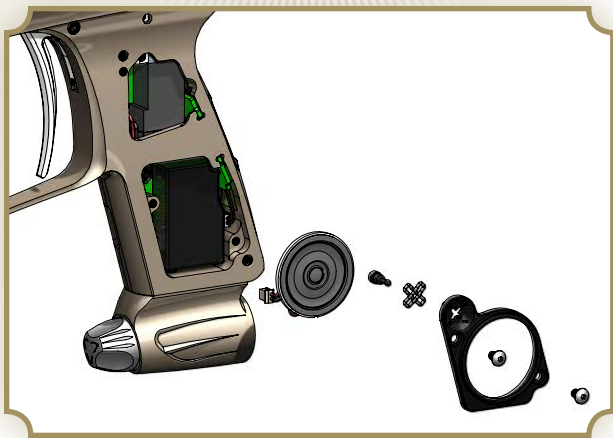
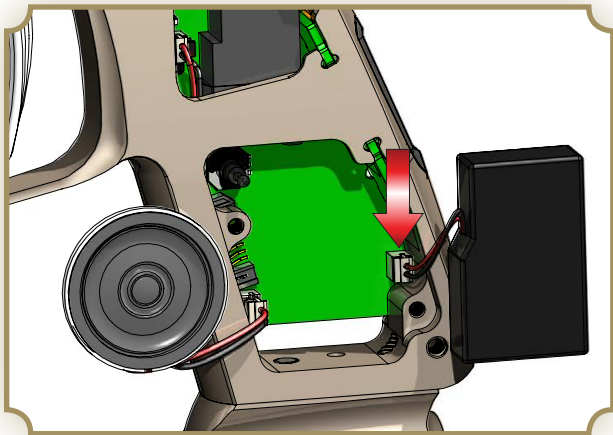

FIG. 1
FIG. 2
❧ FIG. 1 ❧
❧ FIG. 2 ❧
**YOUR LUXE® IS DESIGNED TO OPERATE ON HIGH-PRESSURE AIR (HPA)** which is stored in cylinders (tanks) at pressures of up to 3,000 [FIG. 1] or 4,500 psi [FIG. 2.] The storage cylinder, along with the regulator mounted in its neck forms an HPA system. There are two main types of HPA systems, those on which the regulator's output pressure is adjustable, and those for which their regulator is pre-set to deliver a fixed output pressure. HPA systems designed to screw into an ASA are usually pre-set to provide 400 psi (low pressure output) or 800 psi (high pressure output.)
When mounting the bottom-line adapter directly to the grip frame, it must first be disassembled by unscrewing and removing its control knob. Each of the short 10-32 socket head cap screws are inserted in the center slot in the top of the bottom-line adapter [FIG. 1.] then slid to the front or back. A 5/32-inch allen wrench is guided up through holes in the bottom of the adapter to tighten the screws. If needed, the control-knob's o-ring may be lightly lubricated with GR33SE™ before it is reinstalled.
The Air Integrated Rail offers an alternative configuration with a slightly lower and forward placement of the HPA system. A short socket head cap screw is used through the rail's rear hole to secure it to the grip frame [FIG 2.] A long socket head cap screw is slid into the bottom-line's rear mount point while a short socket head cap screw is used in the front, installing with the same procedure as direct-mounting.
While wearing ASTM compliant paintball goggles, in an area where all bystanders are protected, remove the barrel blocker and fire over a chronograph to measure the velocity. Using a 5/32-inch allen wrench on the adjuster in the bottom of the Luxe® Vertical Regulator, turn clockwise to increase velocity/pressure [FIG. 1.] and counterclockwise to decrease.
Turn off your HPA system either with its on/off valve, or the on/off valve of a connected bottom-line adapter. Lift the quick-strip latch upward to vent pressure from the Power Core [FIG 2.] As the Power Core is depressurized, it will make a sound similar to a soda can being opened. If you hear the sound of escaping gas for more than a second or two, your HPA system has not been turned off. Turn off your HPA system and repeat the degassing procedure.
Unload and degas your Luxe® following the instructions in this manual. Open the left side grip panel with a 5/64-inch allen wrench. Use a 1/16-inch allen wrench to remove the speaker mount. [FIG 1.]
**DO NOT PLUG A BATTERY INTO THE SPEAKER CONNECTION [FIG.2.] AS CIRCUIT BOARD DAMAGE MAY RESULT.**